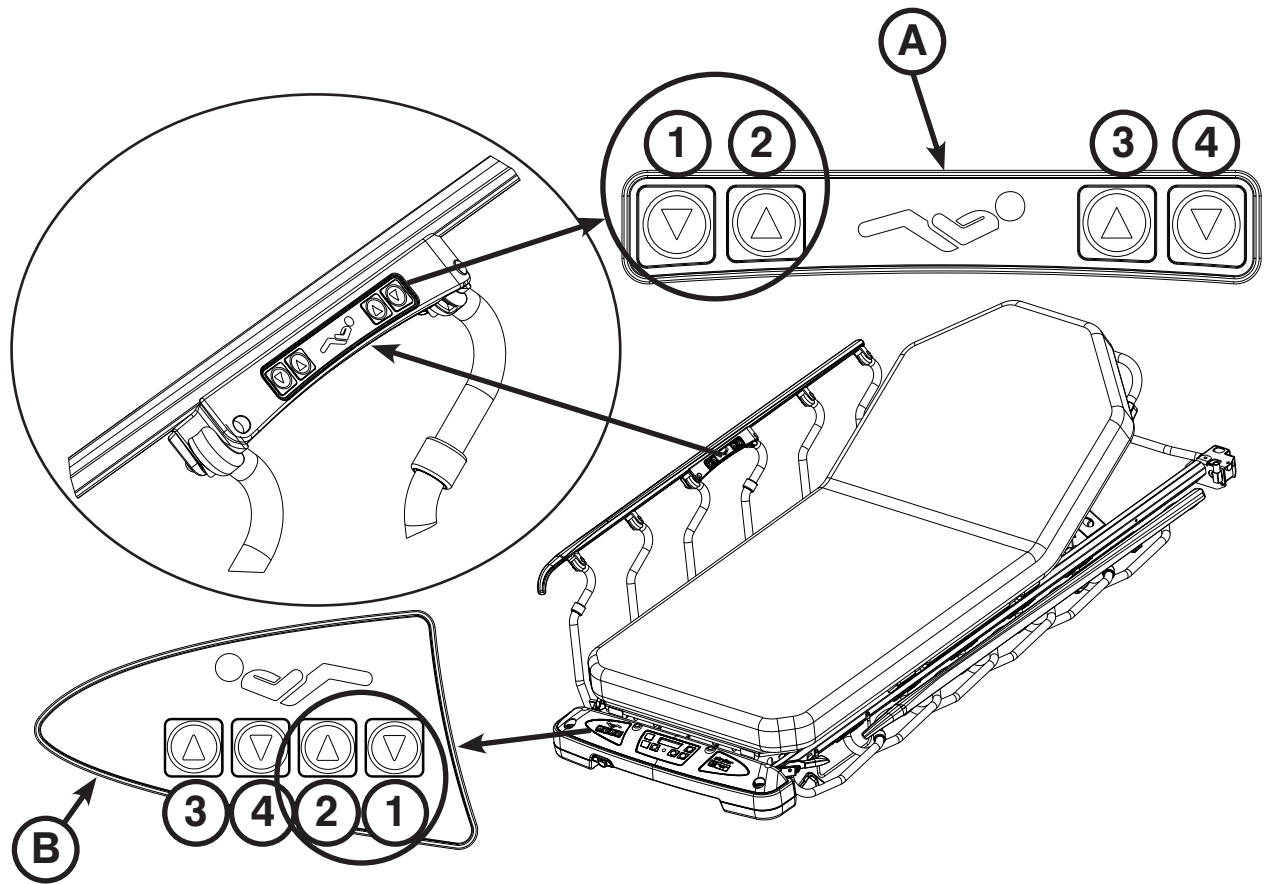

Figure 14: Gatch - Electric Option
To raise the gatch, press the UP (2) button on the siderail patient controls (A) or foot end nursing controls (B) until the gatch has reached the desired height (5.5"/14 cm minimum) as shown in Figure 14.
To lower the gatch, press the DOWN (1) button until the gatch has reached the desired height (5.5"/14 cm minimum) as shown in Figure 14.